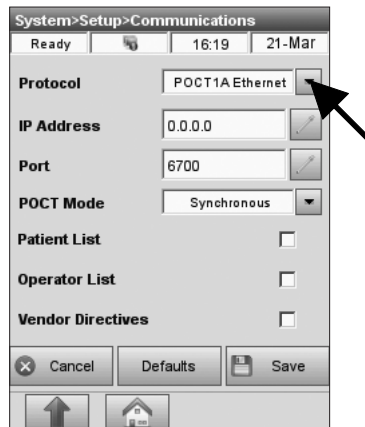

Fig. 3-81 POCT1AEthernet
- **<POCT1AEthernet>** (Fig. 3-81) - Make the following selections: